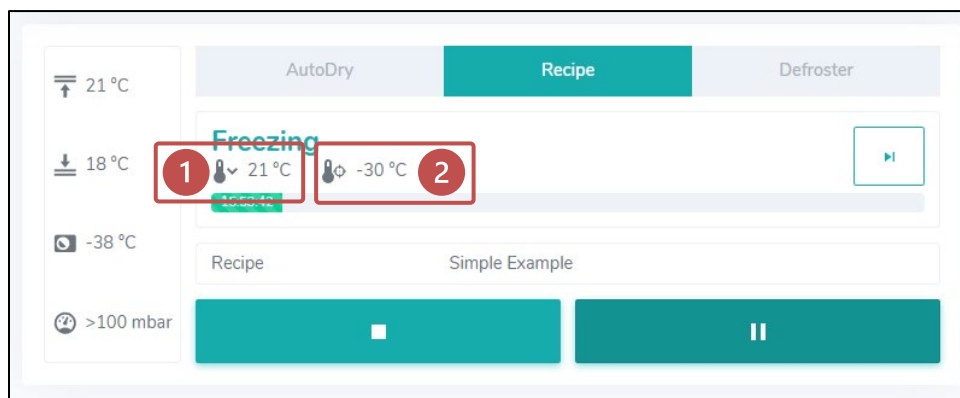

Figure 35
The Recipe Progress screen displays the current stage and real-time values of the current operating recipe. During the Freezing stage, these values include recipe runtime, as well as current (1) and target (2) shelf temperatures (Figure 35).